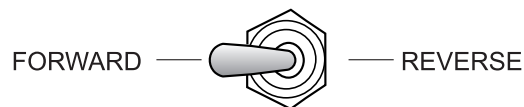

Figure 23. Direction Control Switch (FORWARD)
4. Place the **direction control switch** to the **FORWARD** position (Figure 23).